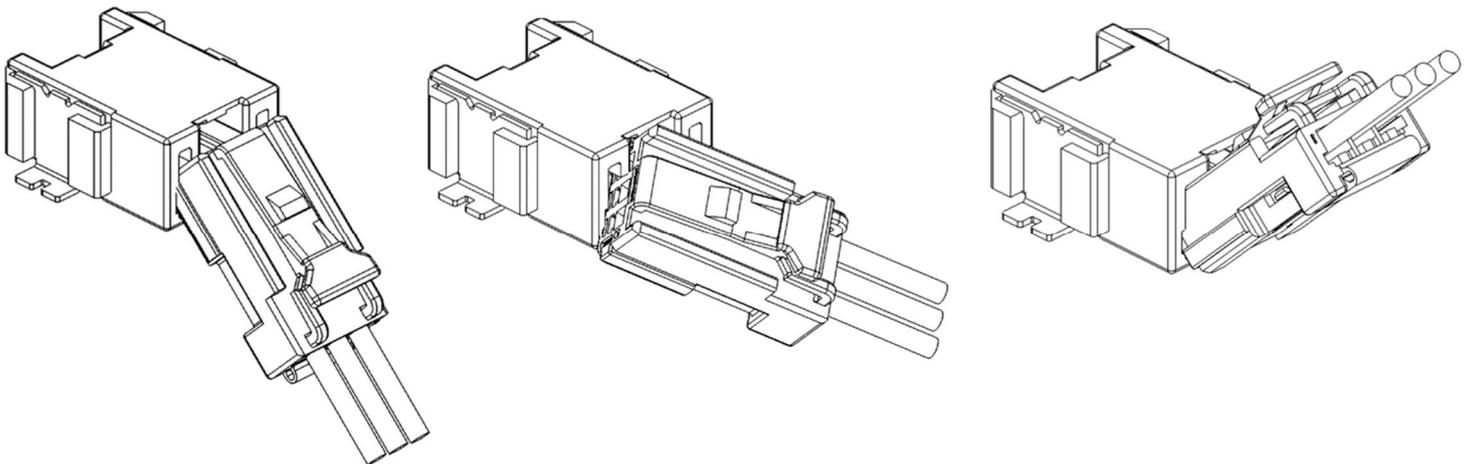

Fig.49. Mating orientations (not advisable)
① Only mate the connector in the direction instructed above. Do not forcefully mate in any orientation shown in Fig.49.